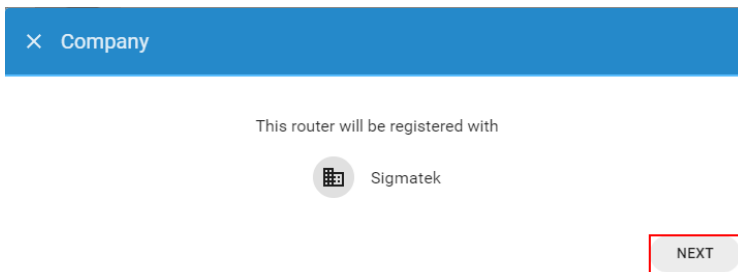

Figure 5.33 Select the company the device should be registered to.
3. Select a company to register the device with (Figure 5.33).